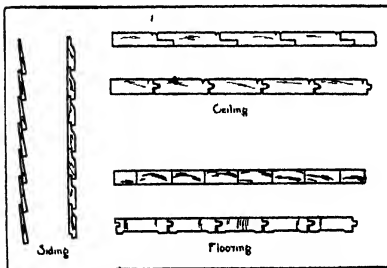

Fig. 301. Siding, Ceiling, Flooring.
13. FLOORING, (See also Fig. 301.)
In flooring, Fig. 301, the boards are made narrow so as to reduce the size of openings at the joints when they shrink, and also to reduce the tendency to warp. They may be laid side by side as in the cheapest floors, or matched to close the joint. For difference between slash- and comb-grain flooring, see Fig 55, p. 43.
15. SIDING OR CLAPBOARDS, (See Fig. 301,) may either overlap without a joint or be rabbeted to fit. The best siding is rabbeted.
21. CEILING, Fig. 301, consists of matched boards having a "bead" to disguise the joint and give a decorative effect.
In matched flooring, the underside of the boards is slightly narrower than the upper side so that the joint may close on the upper side without fail, Fig. 301, p. 199. The ends of flooring boards are also slightly beveled so as to make a tight fit on the upper side.